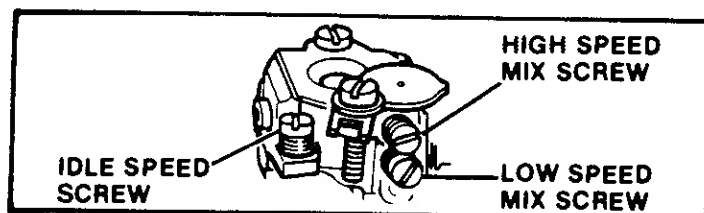

Figure 44
- Locate the three (3) carburetor adjusting screw openings to the right of the air filter cover. Figure 44.